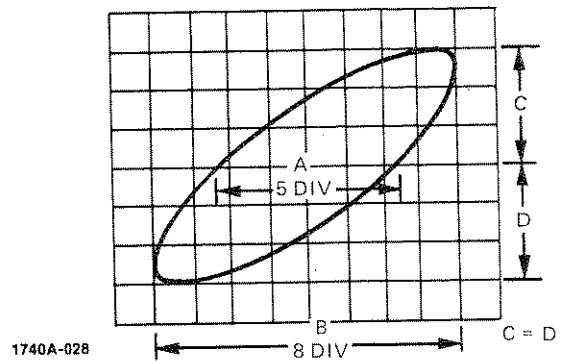

Figure 22a. A VS B Phase Measurement
4. Measure distances A and B as shown in figure 22a. A is the distance intersected by the trace on the
**Example:** In figure 22a, A equals five divisions and B equals eight divisions. Distance C is equal to distance D. The sine of the phase difference ( $\theta$ ) is A/B, which is 0.625.